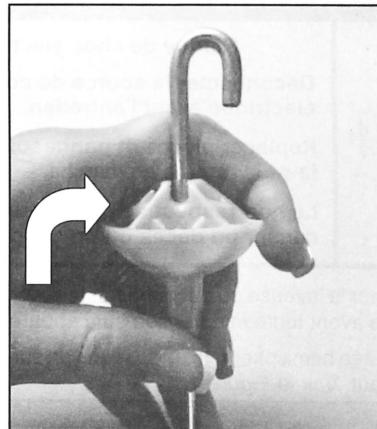

FIGURE 3
4. Flip suspension ball upright. See *Figure 3*.